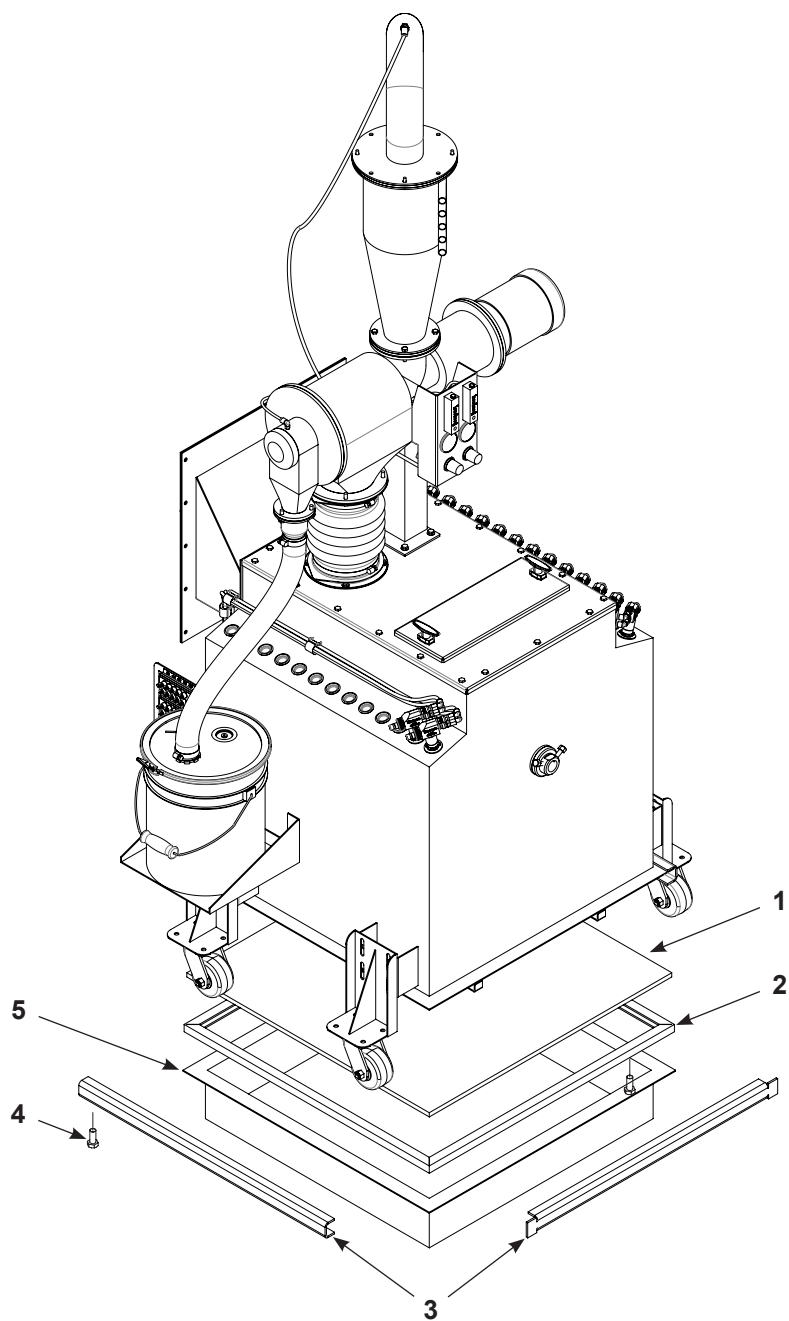

Figure 2 Feed Hopper Fluidizing Plate Replacement
1. See Figure 2. Block up the plenum (5) so the plenum and feed hopper flanges will not bend when you start removing the clamping channels (3).
2. Loosen screws (4) about 6–10 mm (0.25–0.375 in.) to clear the gasket (2). Remove the clamping channels.
3. Remove the plenum and the fluidizing plate (1) from under the feed hopper.